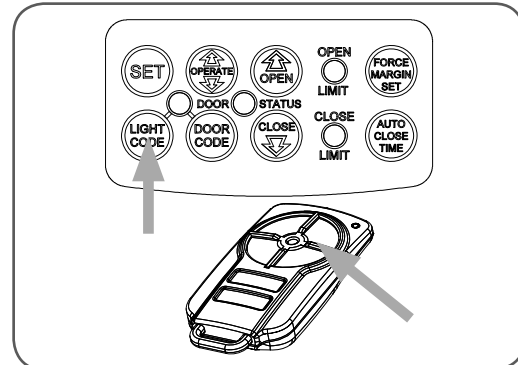

fig 21
- Press and hold the LIGHT CODE button (**Fig. 21**).
- Press one of the four buttons on the transmitter for two (2) seconds, pause for two (2) seconds, then press the same button again for two (2) seconds.